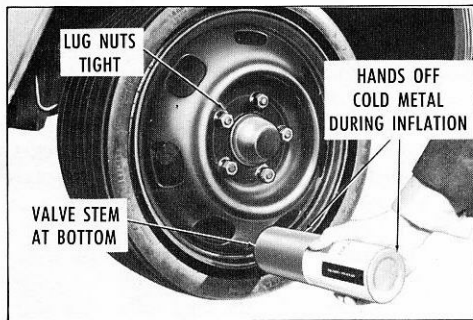

FIG. 5-12: INFLATING STOWAWAY SPARE
4. Place canister over valve stem and push squarely onto stem until gas entering tire can be heard, Fig. 5-12.